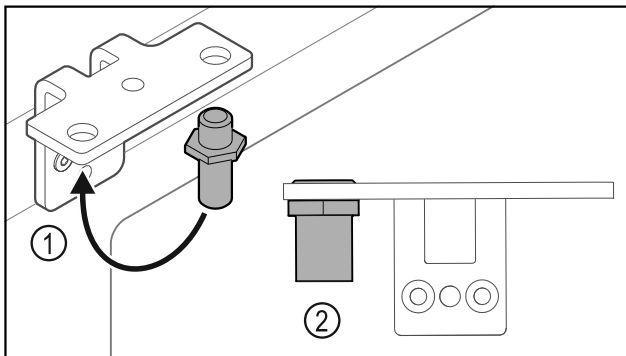

Fig. 37
- ▶ Put the pin back into the hinge Fig. 37 (1).
- ▶ Tighten the pin Fig. 37 (2) to a **torque of 12 Nm (9 ft-lb)**.